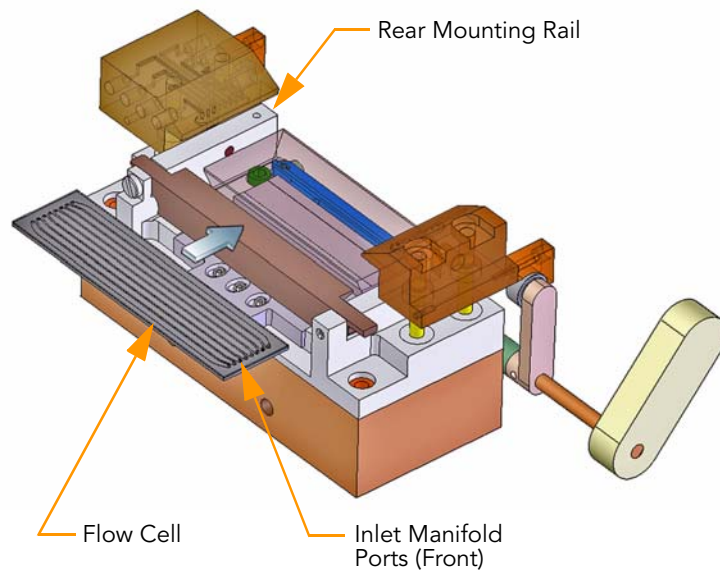

Figure 48 Load the Flow Cell
2. Place the flow cell on top of the front and rear mounting rails with the inlet and outlet ports facing *up*. Press it gently against the stops on the right side (Figure 48).